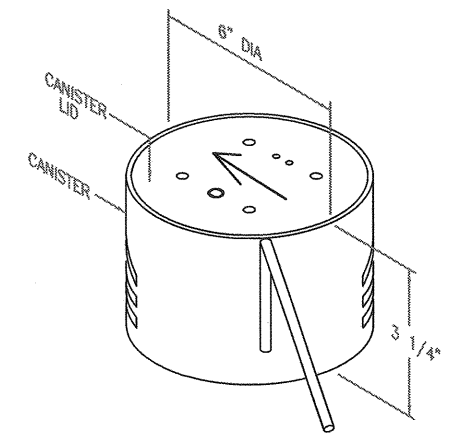
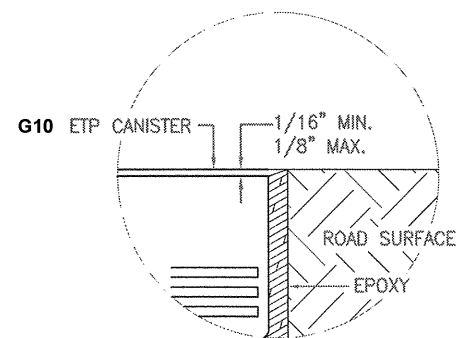

FIG. 1
FIG. 2
- STEP 6. HOLDING G10-ETP ASSEMBLY PLACE BOTTOM EXTERNAL TEMPERATURE PROBE INTO 1/2" HOLE. PLACE SAND IN BOTTOM OF HOLE TO LEVEL THE CANISTER. PLACE ENOUGH SAND IN THE BOTTOM OF THE HOLE SO THAT THE TOP OF THE CANISTER IS AT LEAST 1/16" (NO MORE THAN 1/8") BELOW THE ROAD SURFACE. (SEE FIG. 2)
STEP 8. PLACE THE G10 ETP CANISTER (FIG. 1) IN THE EPOXY FILLED HOLE AND PROBE IN THESLOT WITH ARROW POINTED IN DIRECTION OF TRAFFIC FLOW AND AT DEPTH SHOWN (FIG. 2).
STEP 10. USE CANISTER INSTALLATION TOOL TO APPLY PRESSURE AS NEEDED TO POSITION THE CANISTER AT DEPTH SHOWN (FIG 2). IF NECESSARY, ADD ADDITIONAL EPOXY SO THAT THE PERIMETER AROUND CANISTER HAS NO SINK MARKS.